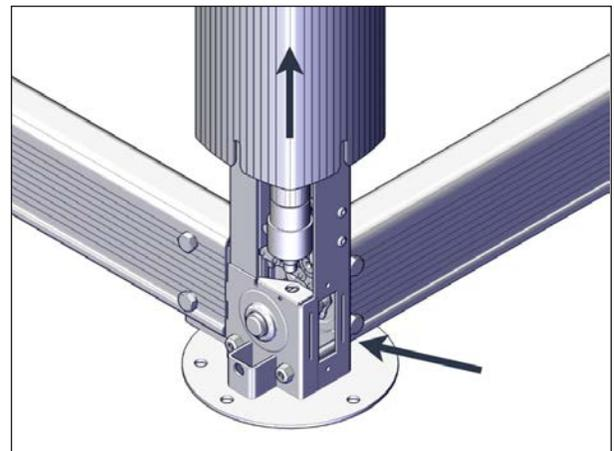

FIGURE 78: ACCESS TO THE CHAINS
2. Lift up the sleeve by hand and keep it safely in position with a wooden block, see Figure 78.
3. Locate the chain inside the post. The opening at the bottom of the post allows access to the chain, see Figure 78.